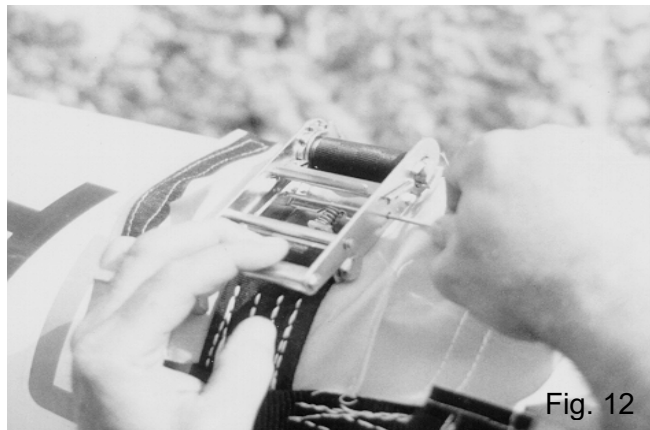

Fig. 12
- d. Lock the ratchet by inserting the cotter pin through the holes in the ratchet housing and handle and spreading the ends of the cotter pin (Fig 12).